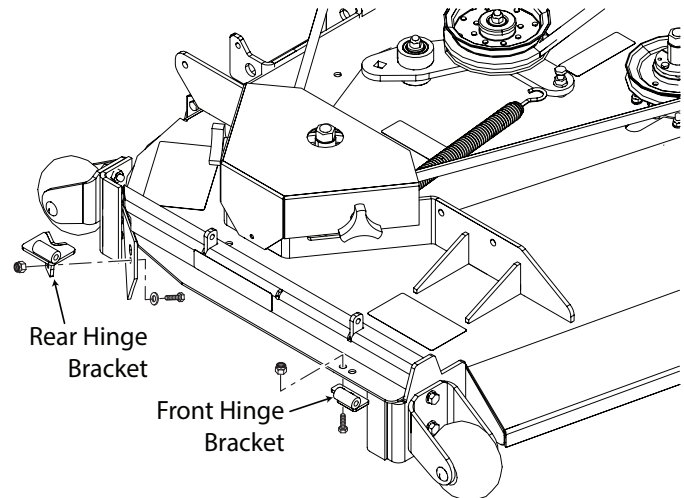

Figure 3-21. Hinge Weldment Installation
7. Install the rear hinge bracket to the cutter deck using one (1) 5/16-18 x 1" bolt, one (1) 5/16" flatwasher and one (1) 5/16-18 elastic stop nut. Do not tighten the hardware. See Figure 3-21.
16. Install the front hinge bracket to the cutter deck using two (2) 5/16-18 x 3/4" bolts and two (2) 5/16-18 elastic stop nuts. See Figure 3-21, Page 16. Do not tighten the hardware.